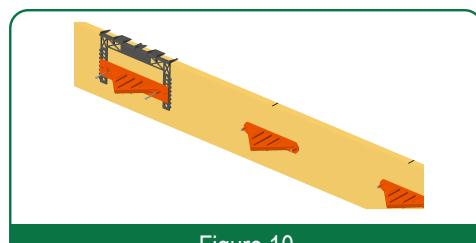

Figure 10
- Once the Sleeve is fixed to the wooden form, the device is removed and can be reused to align and fix as many Sleeves as needed. **Figure 10 to 12**